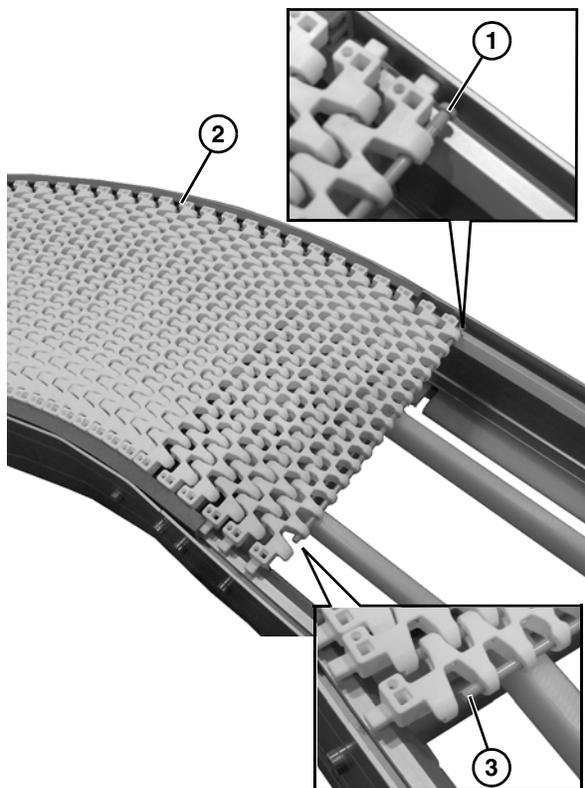

Figure 15
- Orient the belt direction such that the pin heads (**Figure 15, item 1**) are on the outside of the belt radius (**Figure 15, item 2**). The straight portion on the pin (**Figure 15, item 3**) will be on the inside radius.